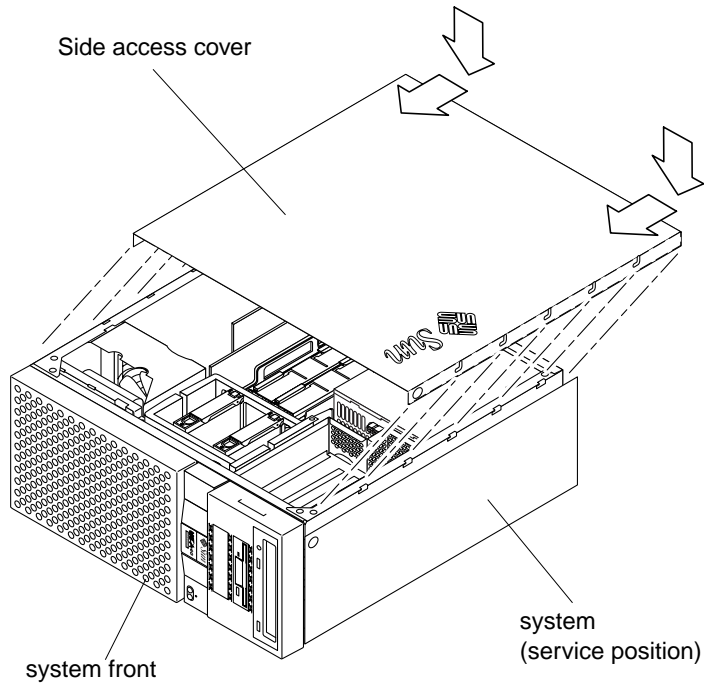

FIGURE 3-9 Replacing the Ultra 60 Side Access Cover
1. Position the side access cover (FIGURE 3-9).
3. Connect the lock block (FIGURE 3-9).